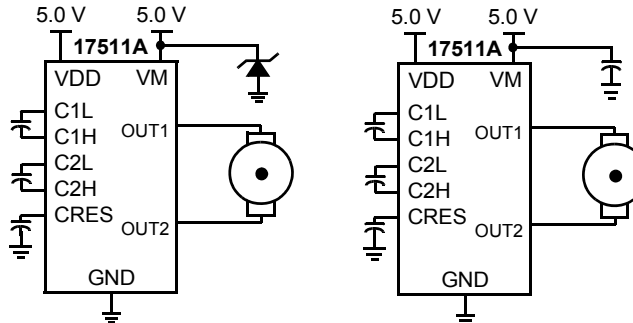

Figure 8. CEMF Snubbing Techniques
Care must be taken to protect the IC from potentially damaging CEMF spikes induced when commutating currents in inductive loads. Typical practice is to provide snubbing of voltage transients via placing a capacitor or zener at the supply pin (VM) (see Figure 8).